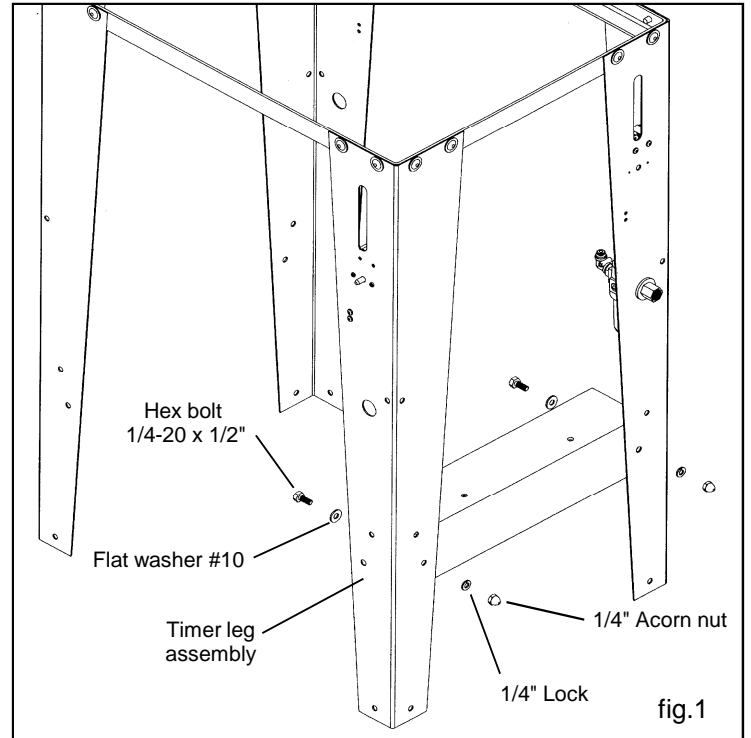

fig.1
Position the pump mount bracket between the timer leg and the filter/regulator leg of the stand assembly. Attach the pump mount bracket to the stand using (2) 1/4-20 x 1/2 hex bolts, (2) #10 flat washers, (2) 1/4" lock washers and (2) 1/4" acorn nuts per leg (see fig.1).